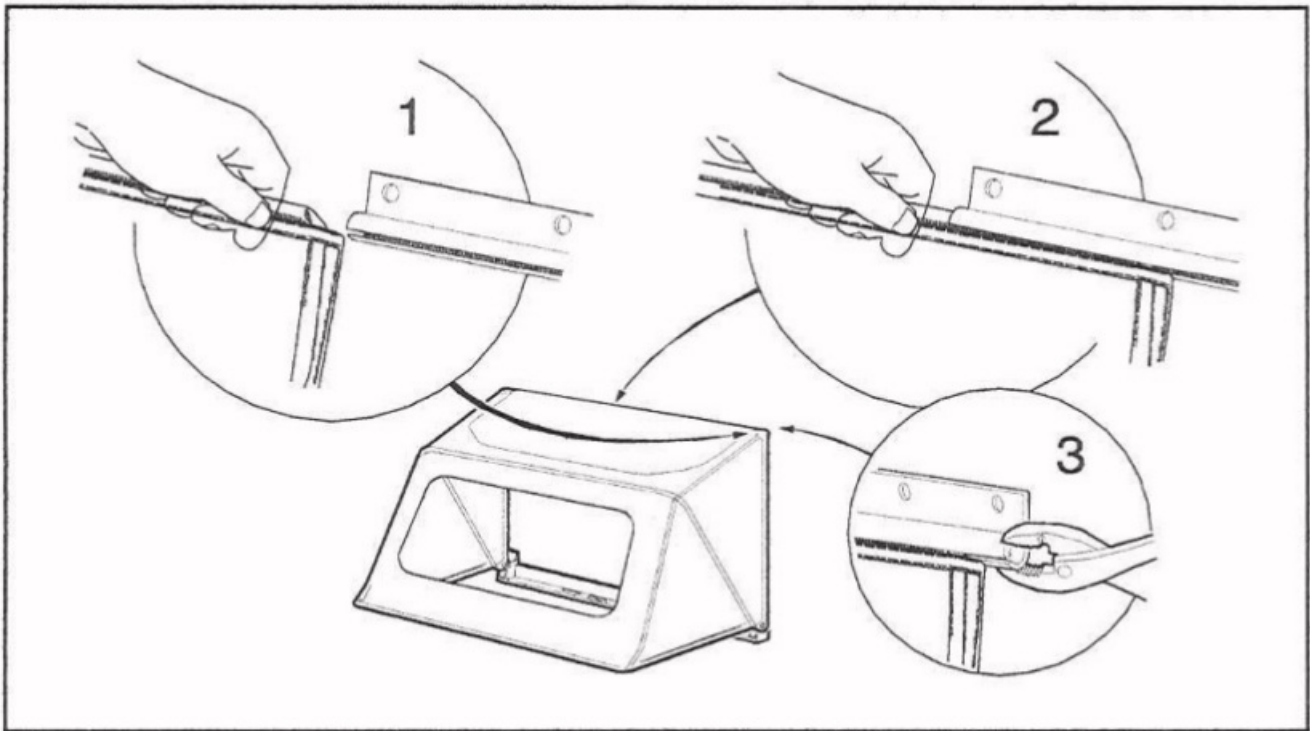

Figure 6 Attach Club Protector to the Tracking Bar
- 3.1. Slide the top (beaded) edge of the club protector into the slot on the tracking bar as shown (Figure 6).
- 3.2. Using pliers, crimp both ends of the tracking bar to hold the protector in place (Figure 6).